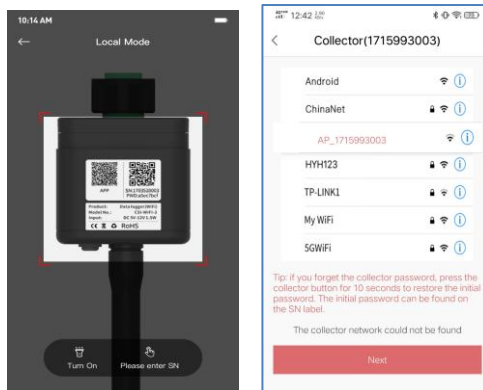

FIG.9 Connect to WiFi stick
- 3) Scan the QR code of WiFi stick or input the serial number of WiFi stick manually. Then connect to the AP of WiFi stick, as per FIG.9;